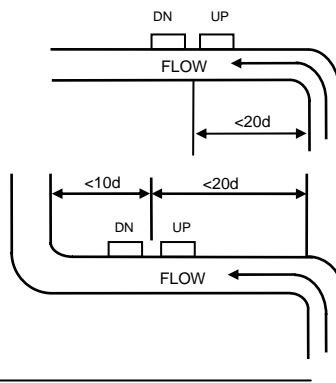
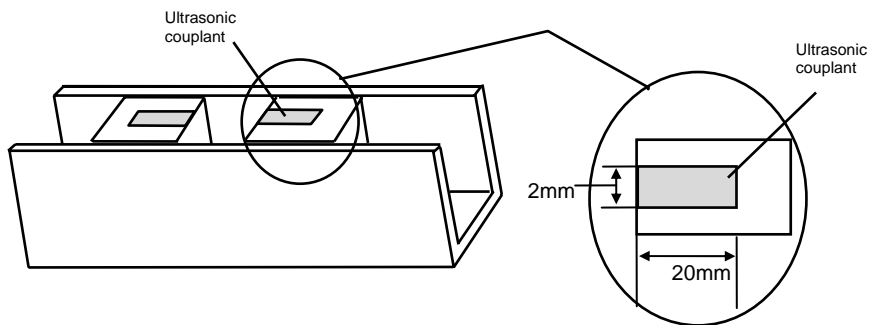

Fig 2. Inverted Plan View of Transducer Assembly
Fig 3a. Guide Rail Assembly
1.2 Turn the two knurled lock nuts on the rail assembly (figure 3a), CLOCKWISE to withdraw the transducers into the guide rail and then apply ultrasonic couplant as shown in figure 2, page 3.	Straight pipe lengths either side of the flow sensors should be 20 diameters UPSTREAM and 10 diameters DOWNSTREAM. See figures 1a and 1b, page 3.
1. Take the guide rail and apply grease to the sensors as shown on page 3 fig 2.